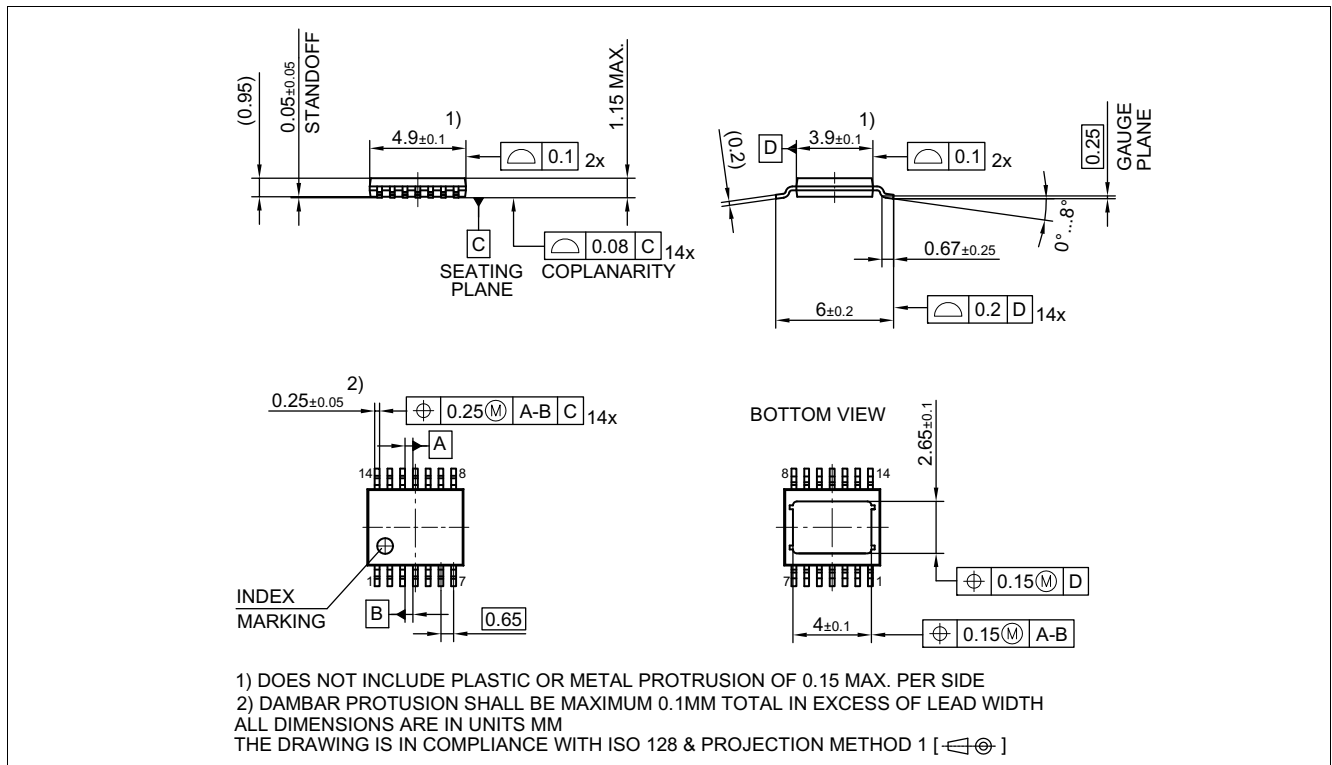
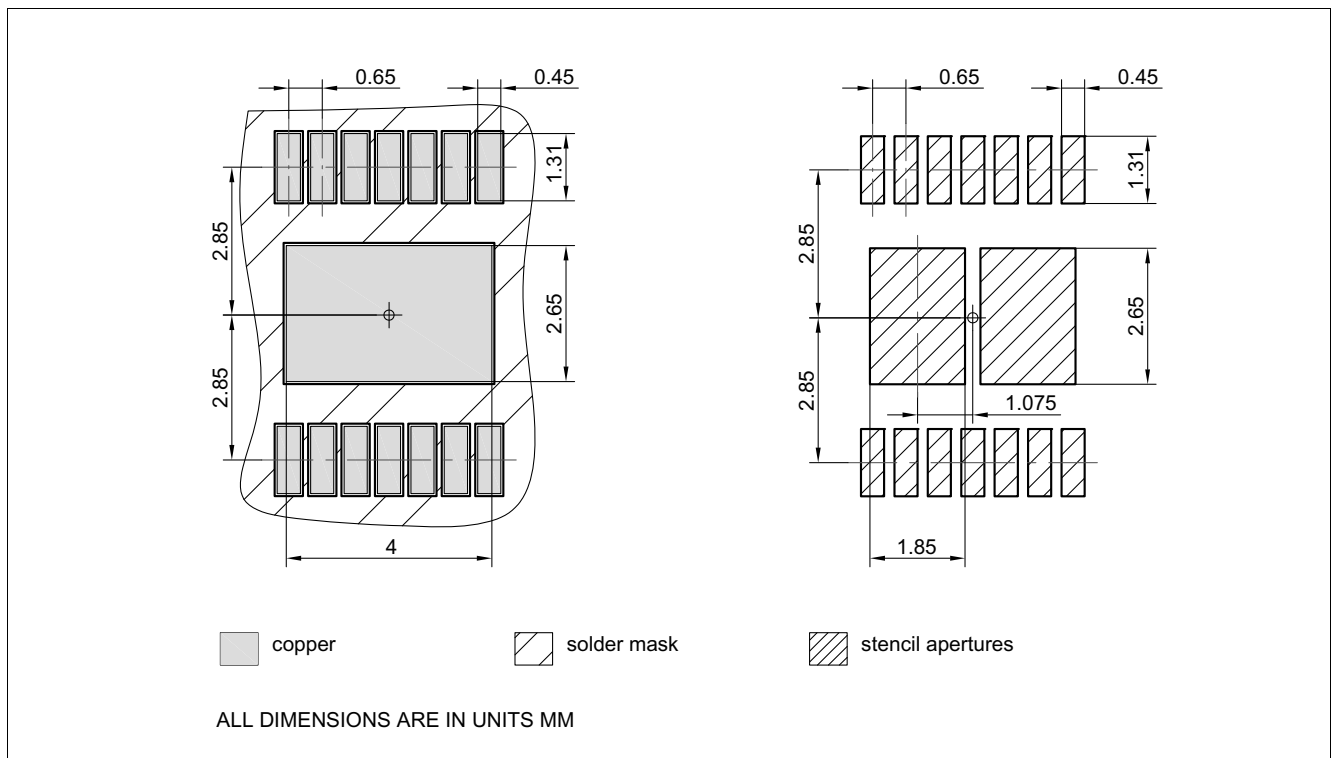

Figure 44 PG-TSDSO-14 (Thin (Slim) Dual Small Outline 14 pins) Package Outline
Figure 45 PG-TSDSO-14 (Thin (Slim) Dual Small Outline 14 pins) Package pads and stencil
1.04, 2019-06-26	Chapter 9.2 updated (2 V → $V_{DS(OLOFF)}$) General: updated (ReverSave™ → ReverseON) Chapter 1 updated ((inserted headline "Product Validation"), (Qualified in accordance with AEC Q100 grade 1 → Qualified for automotive applications. Product validation according to AEC-Q100 Grade 1.)) General: updated Product Name (PROFET™+2 → PROFET™+2 12V) Page 1: updated figure product Table 24 updated punctuation Chapter 9.3.1 updated (typo) Page 1: updated (Package PG-TSDSO-14-22 → Package PG-TSDSO-14) Figure 29 updated Figure 44 updated (PG-TSDSO-14-22 (Thin (Slim) Dual Small Outline 14 pins) Package Outline → PG-TSDSO-14 (Thin (Slim) Dual Small Outline 14 pins) Package Outline) Figure 45 updated (PG-TSDSO-14-22 (Thin (Slim) Dual Small Outline 14 pins) Package pads and stencil → PG-TSDSO-14 (Thin (Slim) Dual Small Outline 14 pins) Package pads and stencil) Table 1 updated ((Symbol: $I_{VS(SLEEP)}$ → $I_{VS(SLEEP)_{85}}$), (Parameter: Minimum Overvoltage protection ($T_J = 25\text{ °C}$) → Minimum Overvoltage protection ($T_J \geq 25\text{ °C}$)) P_9.6.0.6 updated (Note or Test Condition: removed unnecessary line-break)